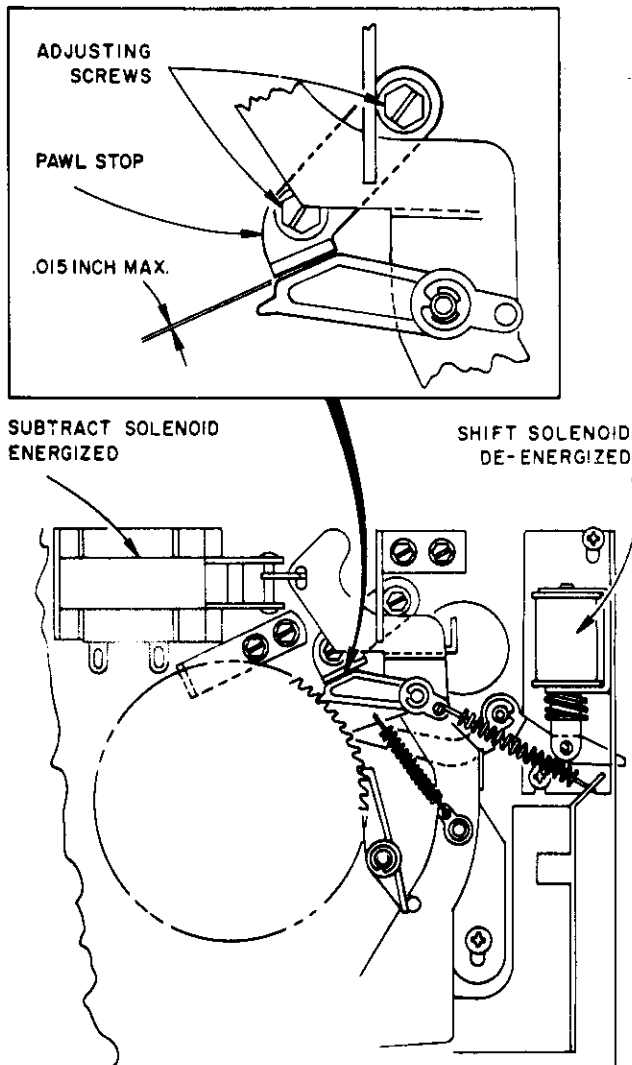

Figure 10. Pawl Stop Adjustment Detail.
3. Refer to Figure 10. Adjust the pawl stop so that when the subtract solenoid plunger is seated firmly on its pole piece, the subtract pawl is not tight against the pawl stop (.015 inch maximum). Check this adjustment by seating the solenoid plunger and manually driving the ratchet wheel in the subtract direction. There must be a slight movement of the subtract pawl. The pawl stop position can be shifted slightly to permit this free play.